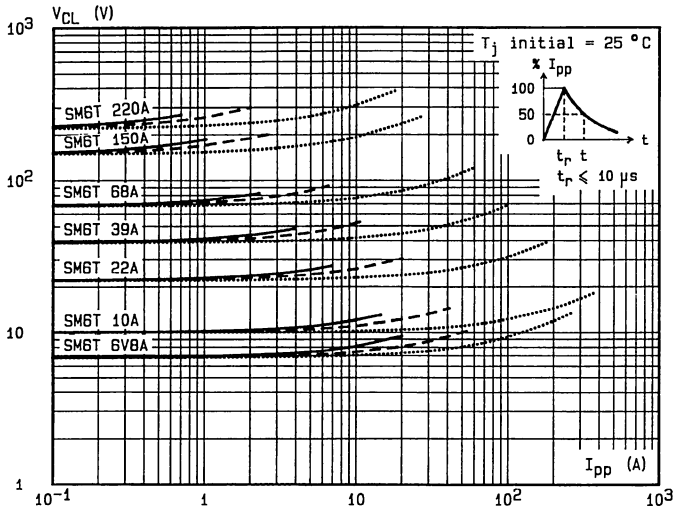

Fig. 2 - Clamping voltage versus peak pulse current.
Note : The curves of the figure 2 are specified for a junction temperature of 25 °C before surge. The given results may be extrapolated for other junction temperatures by using the following formula :  $\Delta V (BR) = \alpha T (V (BR)) \times [T_j - 25] \times V (BR)$